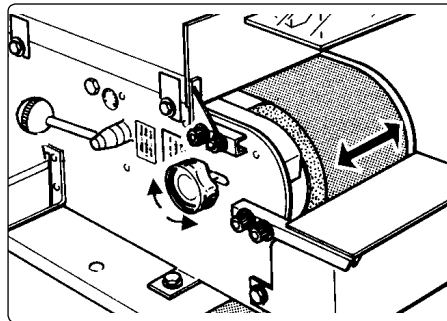

fig 7
- 6.1.2. Identify the tracking knob (fig 7) each turn of the knob will only render a slight adjustment to the belt tracking.